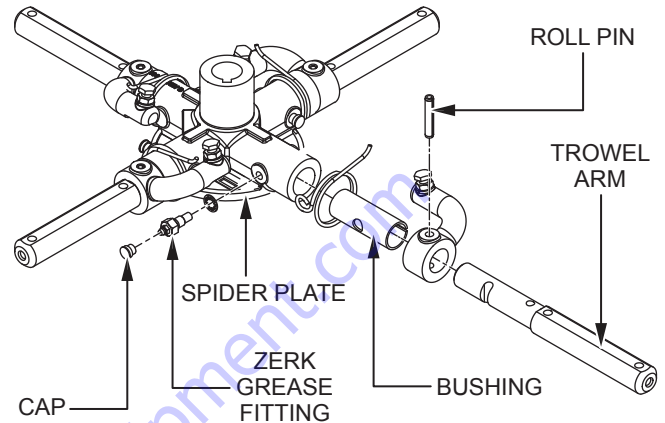

Figure 69. Trowel Arm Removal
1. Each trowel arm is held in place at the spider plate by a Zerk grease fitting (hex head bolt) and a roll pin. Remove the Zerk grease fitting and the roll pin from the spider plate (Figure 69).
2. Remove the trowel arm from the spider plate (Figure 69).
3. Carefully remove the trowel arm bushing (Figure 69).